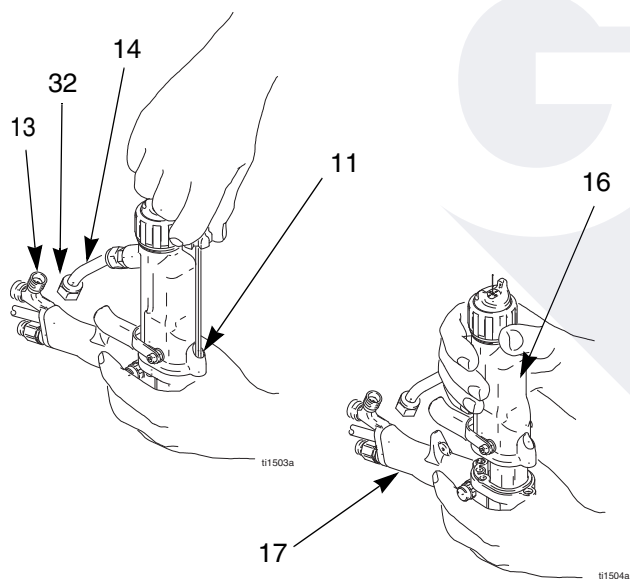

Fig. 15. Barrel Removal
4. Hold the gun handle (17) with one hand and pull the barrel (16) straight off the handle. See Fig. 15..